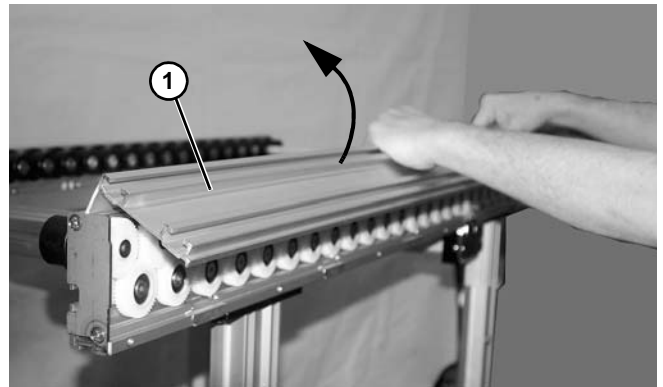

Figure 30
2. Rotate and remove side cover (**Figure 30, item 1**) from conveyor frame